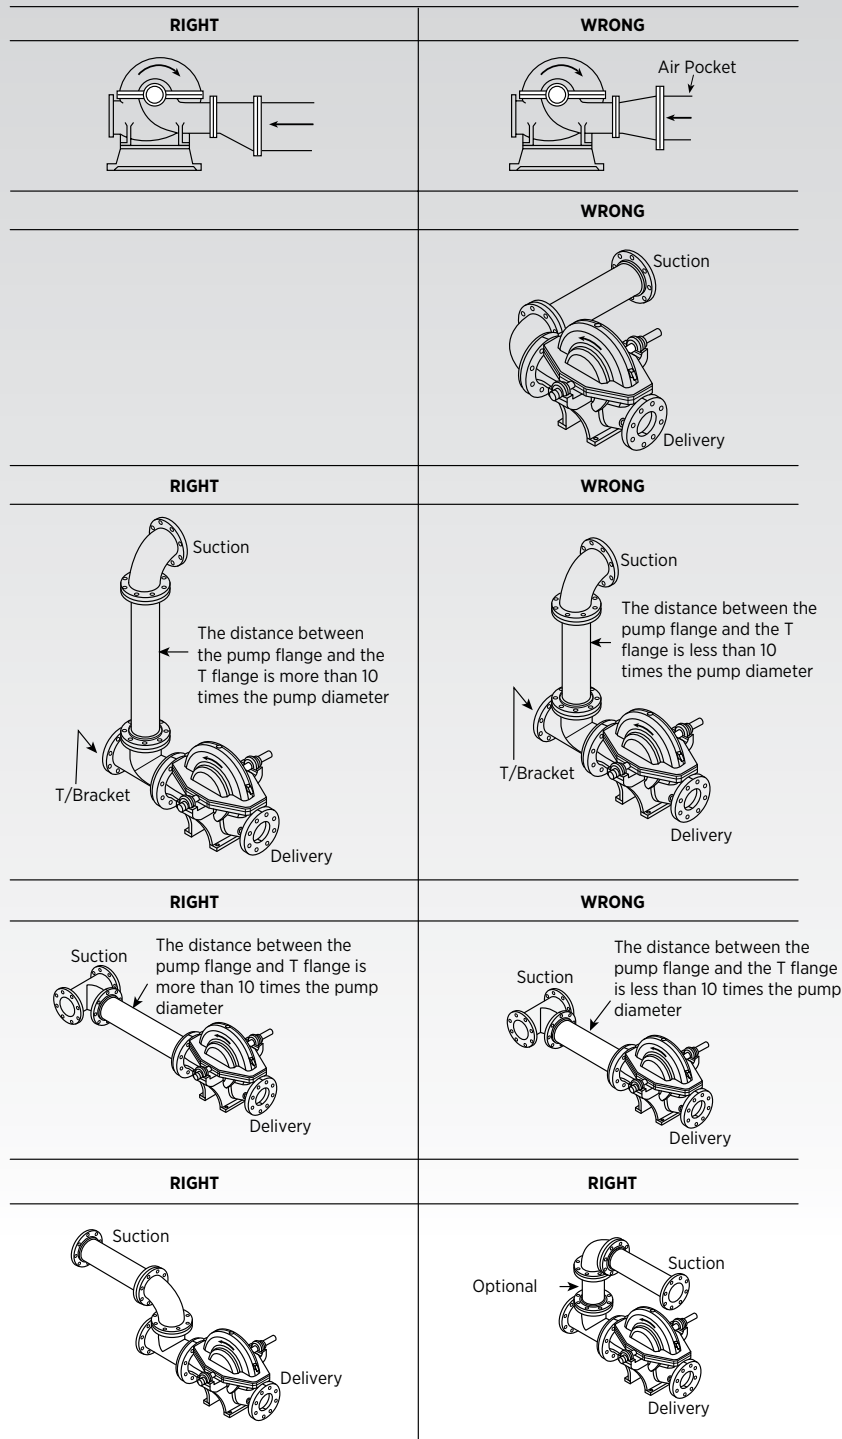

Figure 2: Pump Suction Line Connection Examples
- Elbows and tee fittings located within 10 pipe diameters of the pump inlet in the horizontal line can cause unbalanced flow. "Figure 2" illustrates correct and incorrect suction piping arrangements.